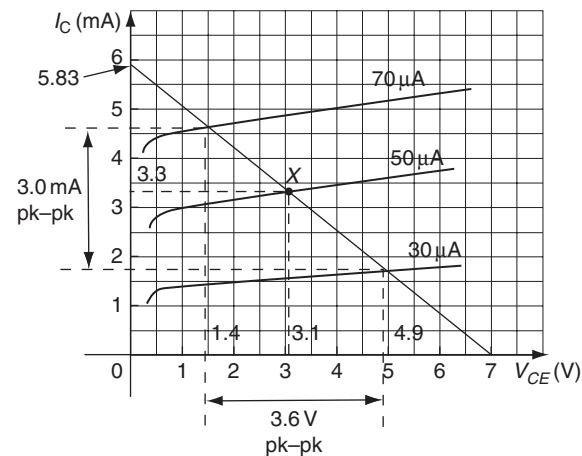

Figure 12.26
The characteristics are drawn as shown in Fig. 12.26.
- (b) The maximum and minimum values of collector-emitter voltage may be determined by locating the appropriate intercept points on Fig. 12.26. Note that the maximum and minimum values of base current will be  $(50 \mu\text{A} + 20 \mu\text{A}) = 70 \mu\text{A}$  on positive peaks of the signal and  $(50 \mu\text{A} - 20 \mu\text{A}) = 30 \mu\text{A}$  on negative peaks of the signal. The maximum and minimum values of  $V_{CE}$  are, respectively, 4.9 V and 1.4 V. Hence,
From Figure 12.26, the output current swing, i.e. the change in collector current,  $\Delta I_C = 3.0 \text{ mA}$  peak to peak. The input base current swing, the change in base current,  $\Delta I_B = 40 \mu\text{A}$ .